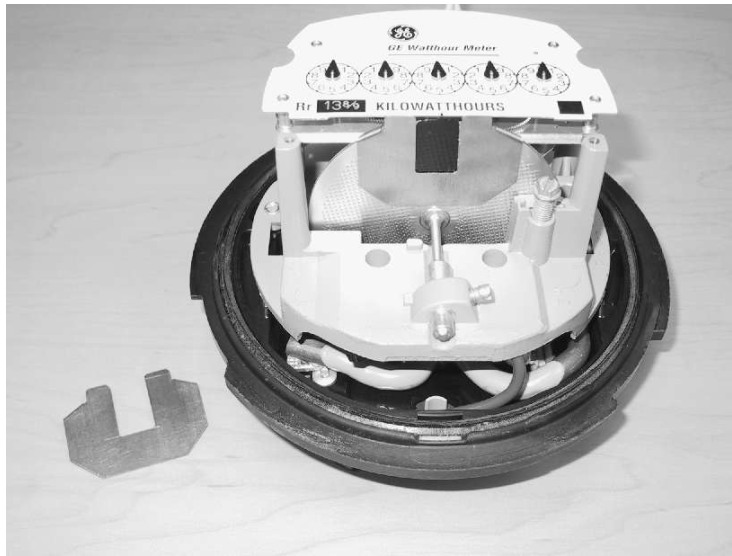

Figure 3: Disk Marking Template Aligned on Disk
2. Align the disk marking template on the disk with the upper left corner of the template opening aligned with the left side of the index mark on the disk as shown in Figure 3.